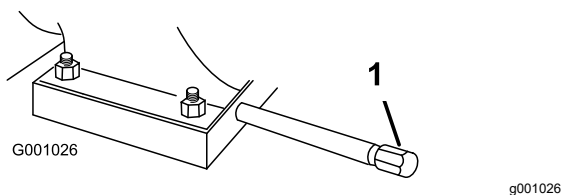

Figure 37
1. Clean the area around the oil-drain cap (Figure 37).